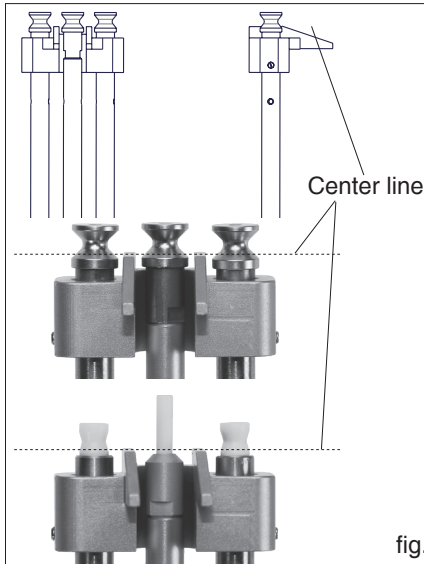

fig. 4.2k
- Push the filament guide upward far enough to ensure that the rollers do not rub against the filament guide and that the process material can slide unhindered into the roller grooves (fig. 4.2k center line).